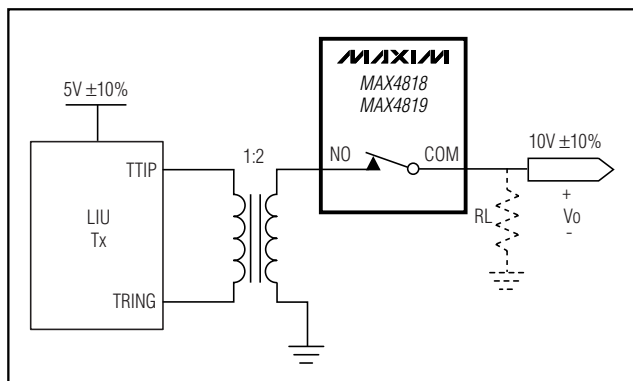

Figure 1. Fault Protection
The fault protection of the MAX4818/MAX4819 allows the devices to handle input signals of more than twice the supply voltage without clamping the signal, latching up, or disturbing other cards in the system. The device detects when the input voltage drops below the negative supply. As soon as a fault condition is detected, the switch is immediately turned off for 128 clock cycles (typically 128 $\mu$ s). At the end of the 128 $\mu$ s time-out, the switch is turned back on for one clock cycle. At the end of the one clock cycle, if the signal is within the operating range, the switch will remain on. Otherwise, the device will turn the switch off again for 128 clock cycles. This will repeat until the signal is within the operating range. In T1/E1 redundancy applications, this can happen when the load resistor (RL) is removed or disconnected for any reason, as shown in Figure 1. Without a load resistor, the output voltage when using a 1:2 transformer can be as high as  $\pm 11V$ .